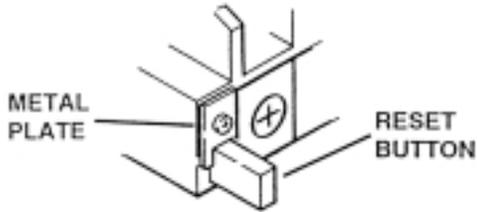

Figure 7-27.
3. The Thermal Relay should reset itself after approximately one minute if it is in the AUTO mode (normal factory setting). If the relay fails to reset itself, check to make sure that the reset button is held IN with the small metal plate. See figure 7-27.